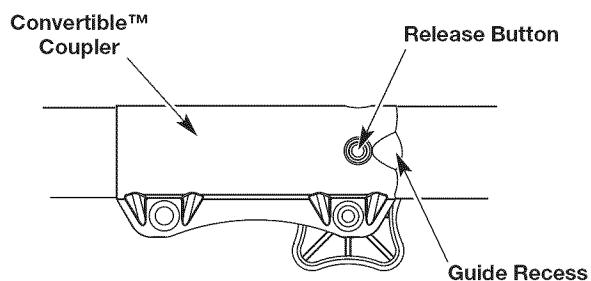

Fig. 9
**NOTE:** Aligning the release button with the guide recess will help installation (Fig. 9).
2. Press and hold the release button (Fig. 9).